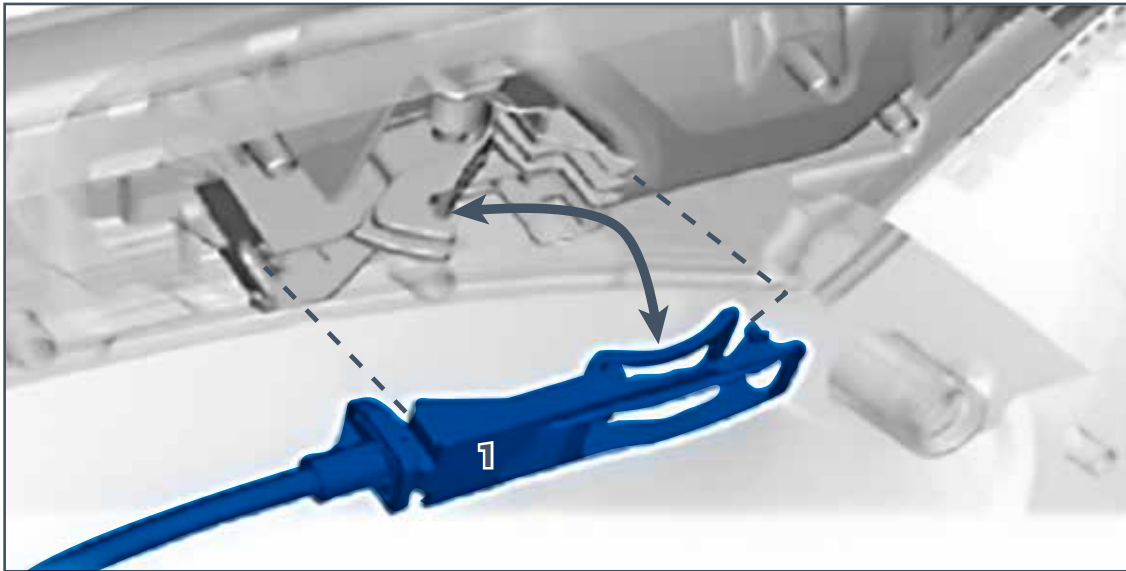

Fig. 12
- 7.1.4 Release the door opening control cable (Fig. 12 point 1).